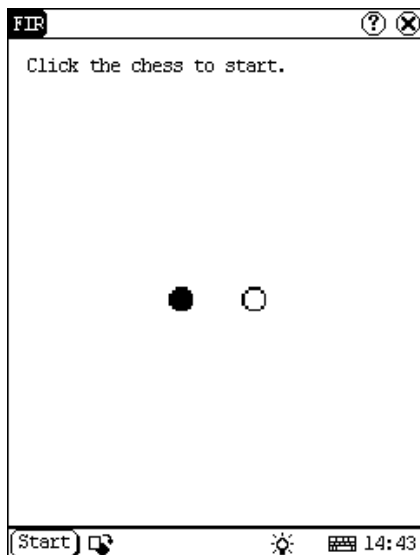

Figure 4-13
- 2) Click black or white chessman to begin the game. The one who select the black chessman will start first. (See Figure 4-13)